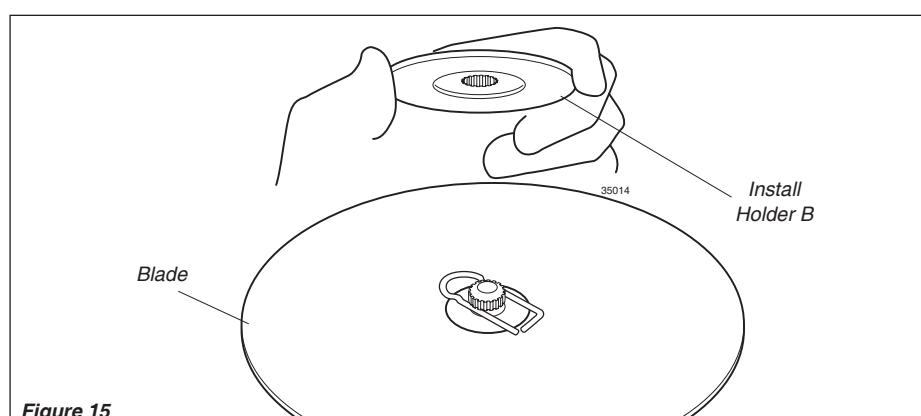

Figure 15
- Install Holder B on the gearcase shaft. See Figure 15.